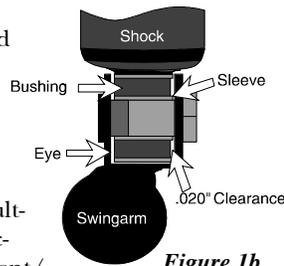

Figure 1b
1. With the exception of the shock mounting sleeves (See figure 1a), it is mandatory that the shock absorbers not make contact with any part of the motorcycle. Damage can result if they are not mounted with adequate clearance (See Figure 1b).
F. Eye To Eye Mounts: **Caution!** A minimum clearance of .020" must be maintained between the shock bushing and the mounting brackets (See Figure 1b). Supplied washers may be used to adjust to this clearance. If the minimum clearance is not maintained, the shocks could bind causing damage and/or handling problems.